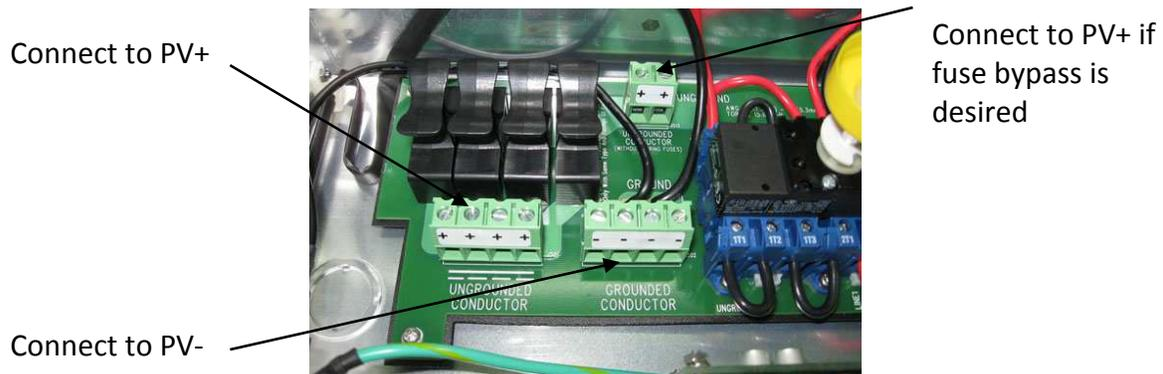

Figure 4.3.2 – DC Terminal Block for DC Wiring Connections
There are two (2) terminals, labeled “Ungrounded (+)” and “Grounded (-)”, per PV string located in the wiring box used for the DC connections as shown in Figure 4.3.2. The DC equipment ground wire shall be connected to a screw on the ground bar labeled  in the wiring box of the PVI 3000S-5300 inverter. All the screws shall be tightened with a torque of 15.6 in-lb (1.7Nm)
If no (fused) combiner is required, as in the case of using a fused combiner other than the fused combiner inside the inverter, then the “Ungrounded (+)” bypass terminals (2) to the right of fuses can be used, as shown in Figure 4.3.2. Up to 2 PV circuits can be connected. The “Grounded (-)” connections are still to be connected to the “Grounded (-)” terminal block.